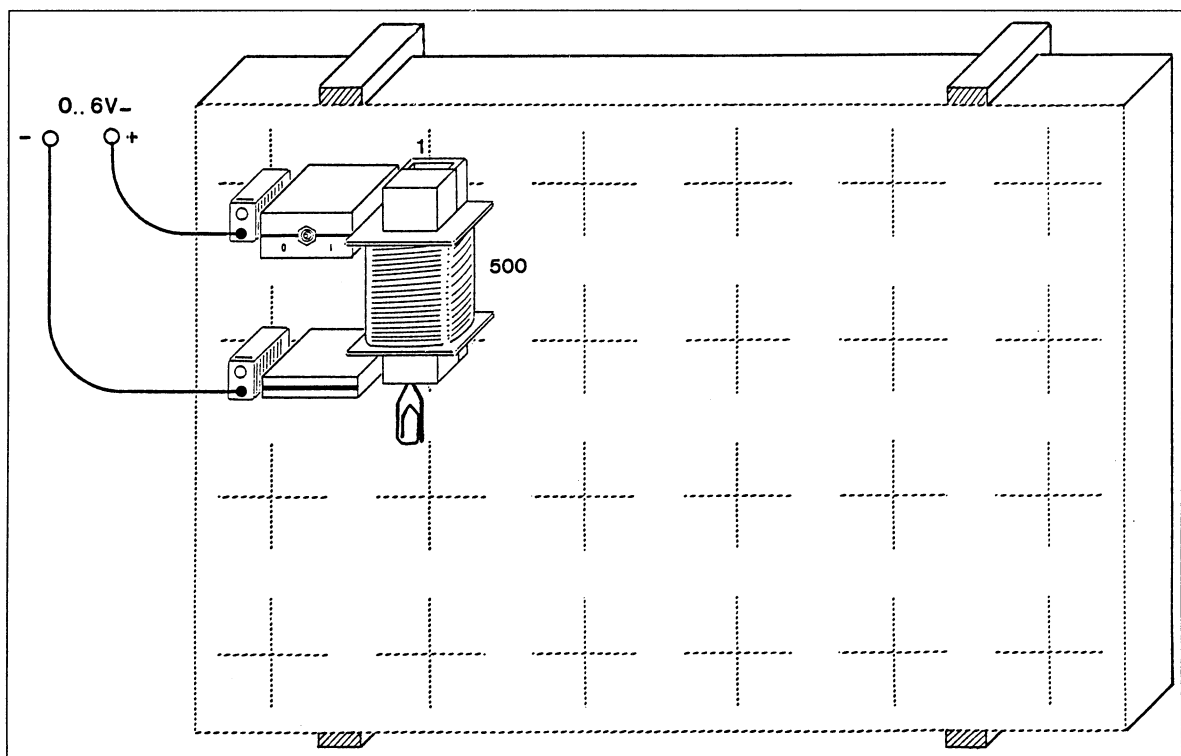

Fig. 1 Experiment setup: electromagnet
1. Connect the coil as shown in Fig. 1 (connect the \oplus pole of the voltage source to input (1) of the coil). Insert the I-core in the coil. Make sure that the voltage level is set to 0 and the switch is open.